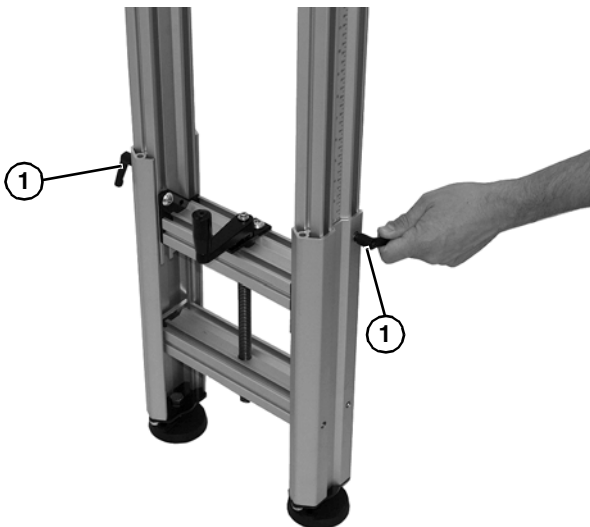

Figure 2
1. Loosen two locking handles (Figure 2, item 1).
Failure to secure locking handles (Figure 2, item 1) may cause conveyor sections to drop down causing severe injury.
TIGHTEN HANDLES (Figure 2, item 1) AFTER ADJUSTMENT.
3. Tighten two locking handles (Figure 2, item 1) to secure position.